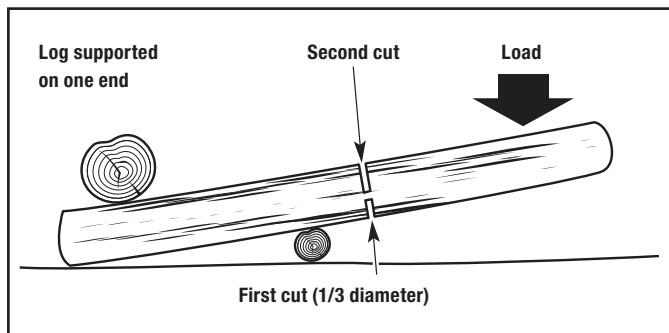

Figure 16
- 1a. If the log is supported on one end (Fig. 16), make the first cut from below (underbucking). Refer to Underbucking.